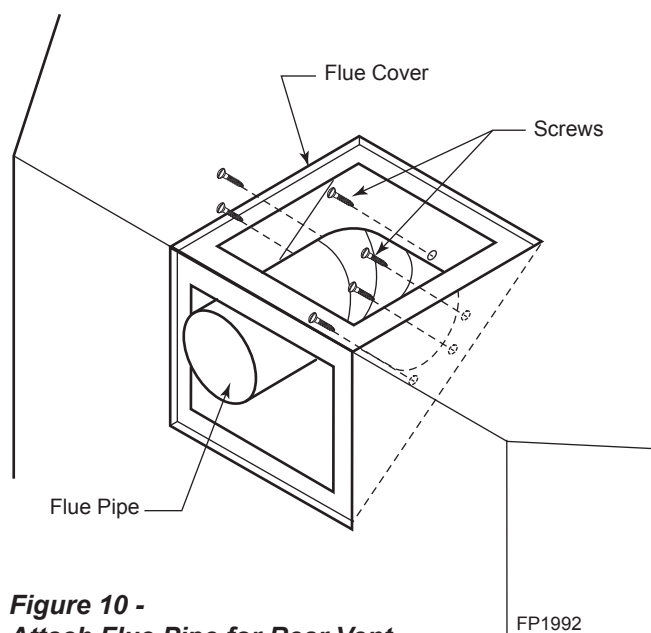

**Figure 10 -
5. Replace flue pipe to top of firebox. Ensure the gasket is in place and undamaged. Secure with six (6) screws. *Figure 10*
7. Refit the flue pipe adapter and gasket to the back of the fireplace. Secure the adapter with eight (8) screws removed in Step 1.